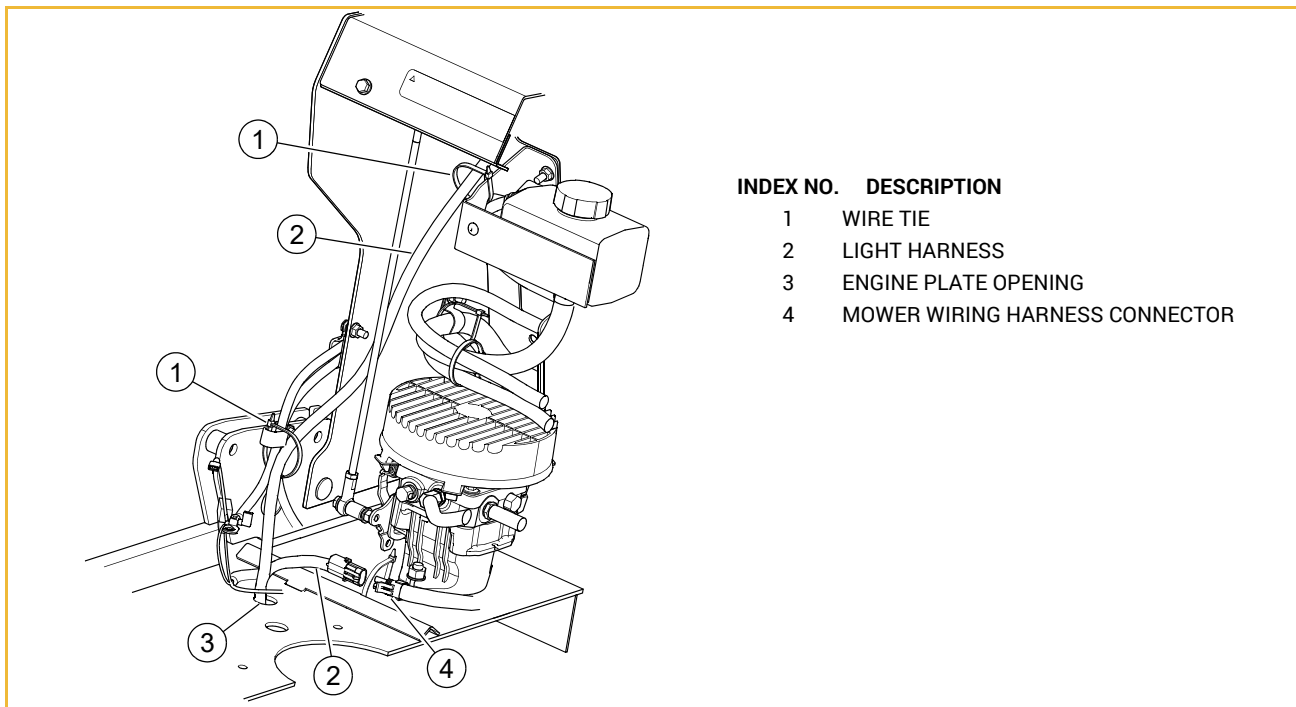

FIG. 4
9. Route the light harness above the mower frame as shown and secure in place with the wire ties. Check the light harness routing and make sure the harness does not come in contact with any moving parts. Correct as necessary. FIG. 4
10. Locate the connector in the main wiring harness between the engine and the operator platform. FIG. 4